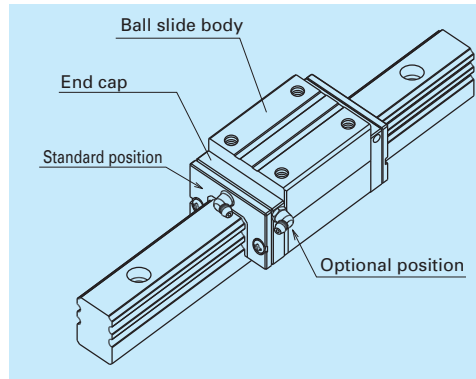

Fig. 11 Mounting position of lubrication accessories
(2) Mounting position of lubrication accessories
- The standard position of grease fittings is the end face of ball slide. We mount them on a side of end cap for an option. (Fig. 11).